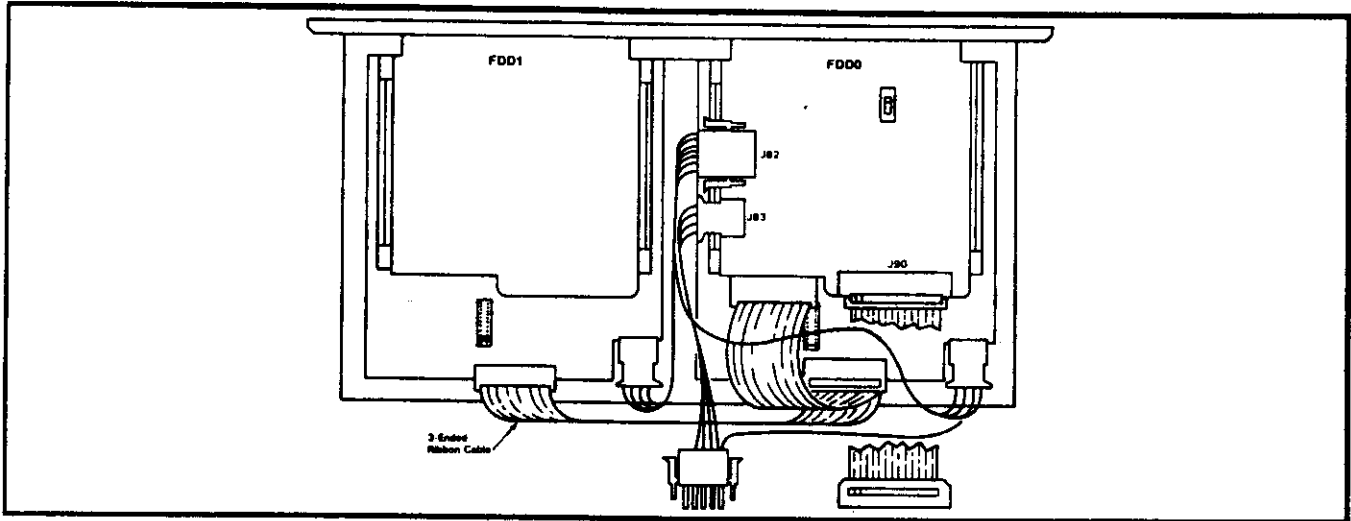

FIGURE 5—FFDA INSTALLATION
- 3) Set the **1.6M/1M** switch on FDD0 to **1.6M** (Figure 5). (A.04 and earlier software require
- 5) Verify that FDD0 and FDD1 (if used) are strapped as shown in Figure 5.